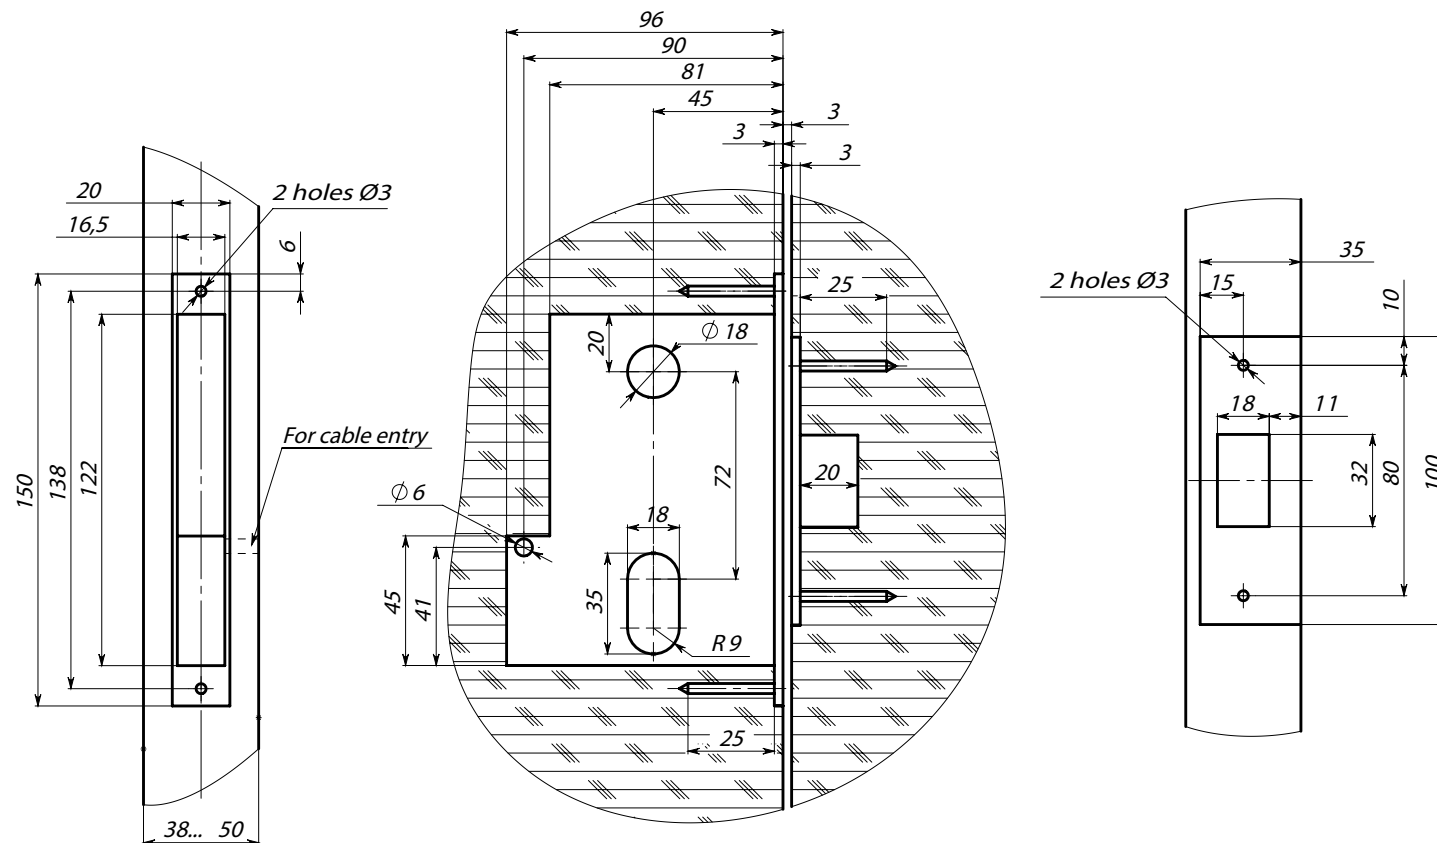

Fig. 3. LC-72.3 electromechanical lock installation layout
Making of holes in the door leaf for installing the lock (1), lock cylinder, door lever, forend and strike plate (8) in the door frame should be made according to Fig. 3 and installation template from the delivery set.
1) Make the carving in the door according to the marking (measures given in Fig. 3);
- 9) Mounting of the strike plate (8) should be made in the following order:
- make the carving in the door frame according to Fig. 3;
- mount the strike plate (8) into the door frame providing 1.5 – 3 mm spacing between the strike plate and the forend (2) when the door is closed. The channel of the strike plate (Fig. 3) must lay symmetrical to bolt's cross section;